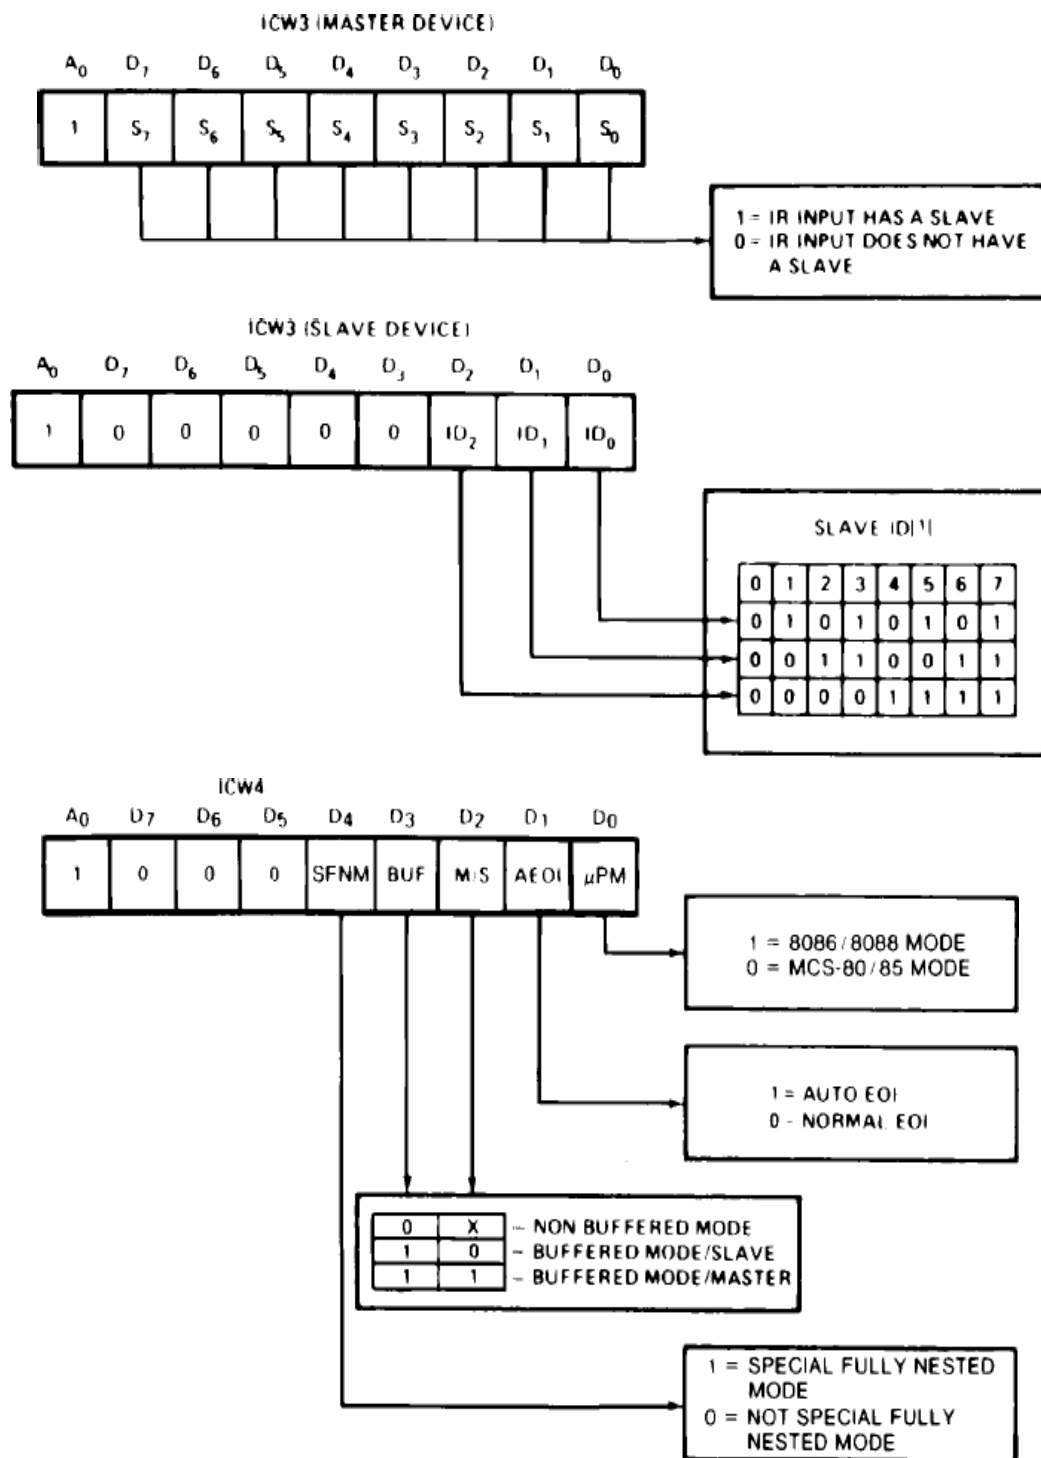

Fig 3.19 . Initialization Command Word Format
- The edge sense circuit is reset, which means that following initialization, an interrupt request (IR) input must make a low-to-high transition to generate an interrupt.
- Initialization Command Word Format is as shown in figure 3.19.